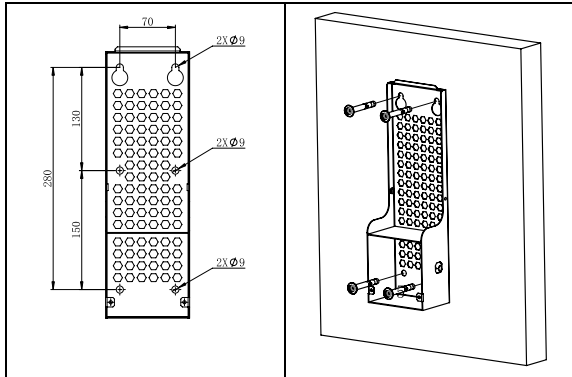

Fig. 5-2 Mounting the metal holder onto the wall
7. Drill 4 mounting holes of 10mm diameter and 70mm depth, spaced 70mm in width and 280mm in height apart. Use the top and bottom holes of the metal holder as shown in fig. 5-2.